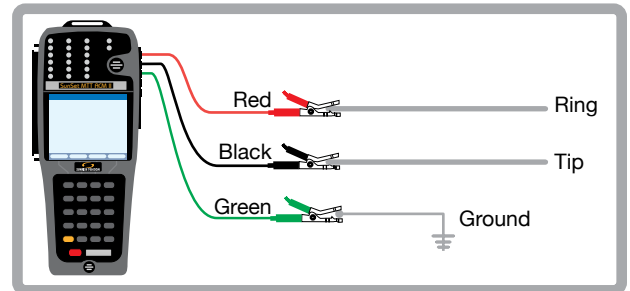

Figure 48 Single-ended Test Setup
There are two types of Line measurements, single-ended and paired. As shown in Figure 48, single-ended tests require one test set; the test set performs the test and takes the measurement from one end of the cable.
Once a test has been selected, connect to the circuit as shown in Figure 48, and press ENTER. See the following subsections for details on testing and measurement results.
1. Connect the test set to the pair as in Figure 48.
1. Connect the test set to the pair as shown in Figure 48.